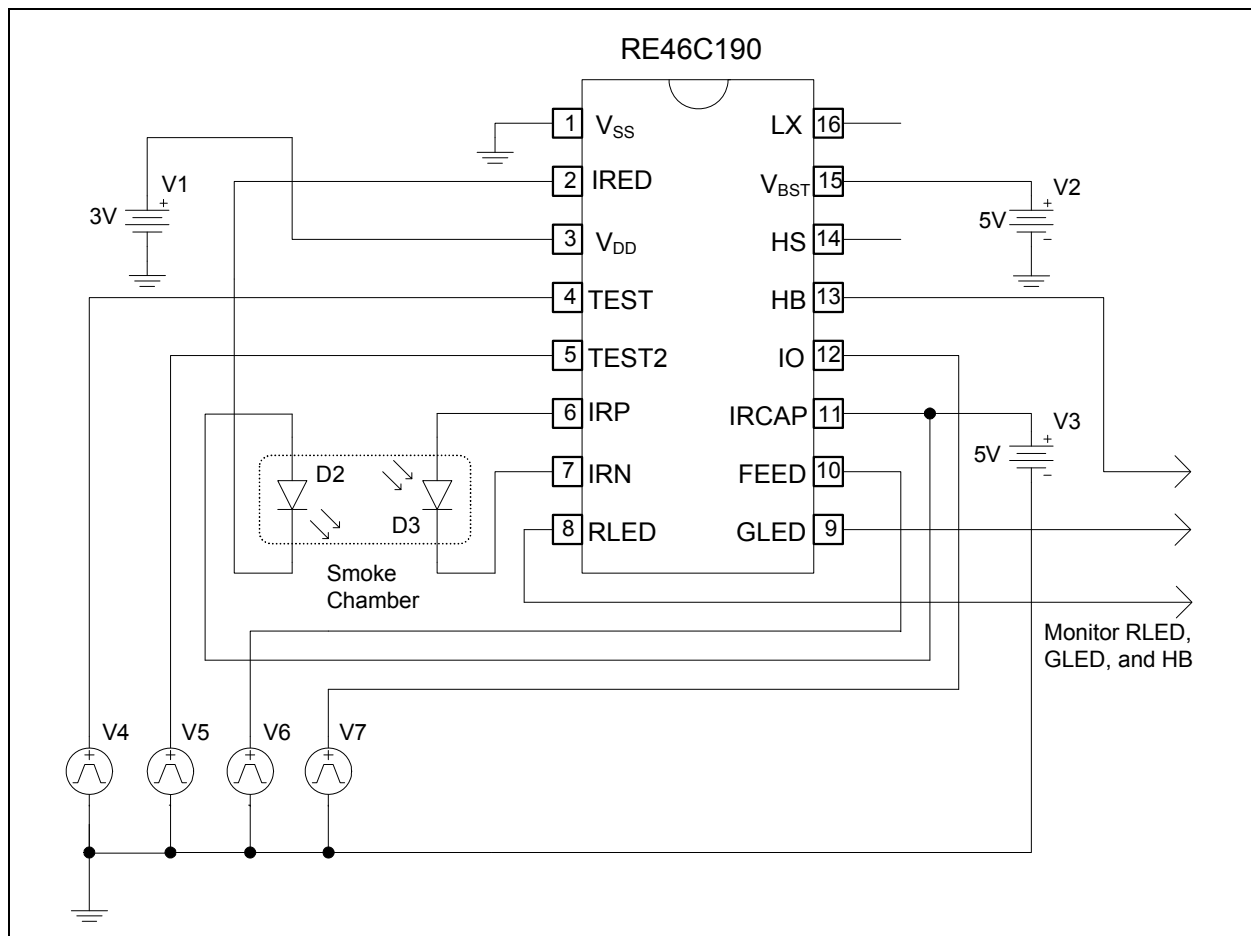
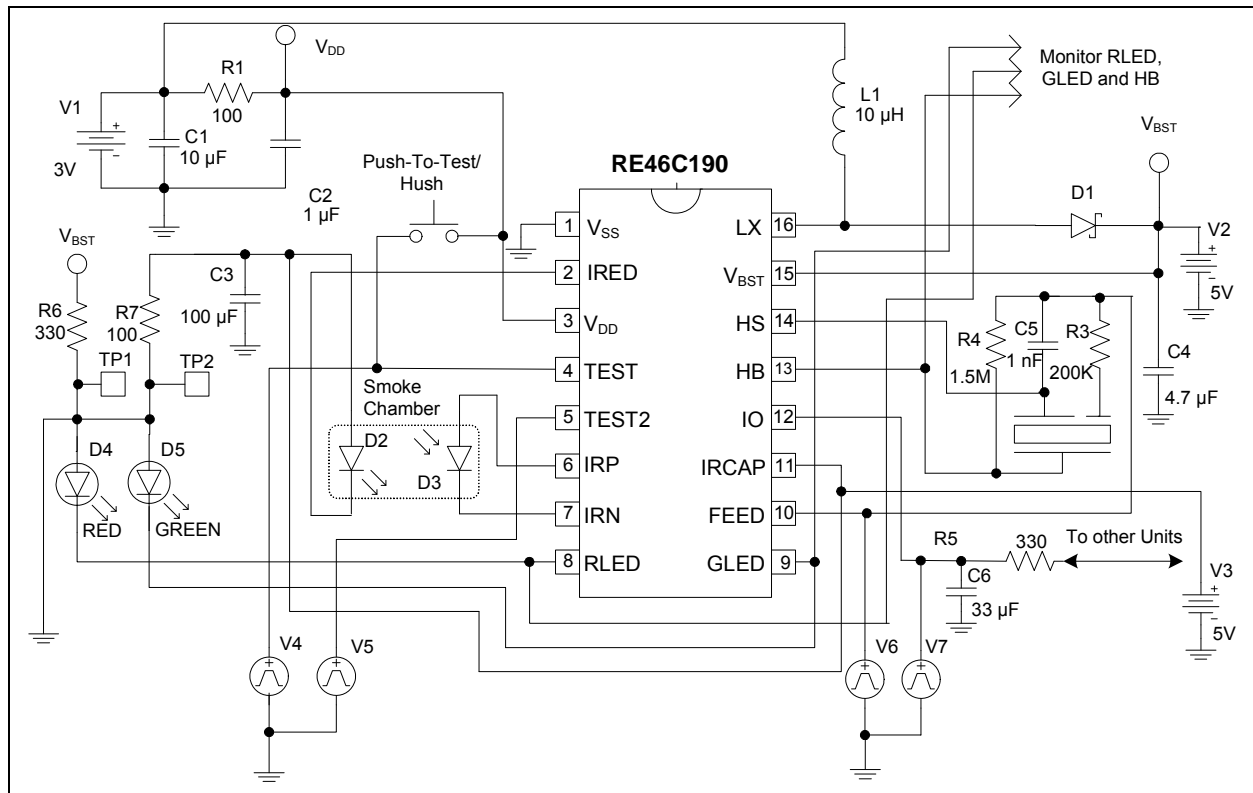

FIGURE 4-1: Nominal Application Circuit for Programming.
FIGURE 4-3: Circuit for Programming in the Typical Application.
1. Power up with bias conditions as shown in Figure 4-1. At power-up
As an alternative to Figure 4-1, Figure 4-3 can be used to program while in the application circuit. Note that in addition to the five programming supplies, connections to V_{SS} are needed at TP1 and TP2.
1. Power-up with the bias conditions shown in Figure 4-1.
- 1. Set up the application as shown in Figure 4-1.